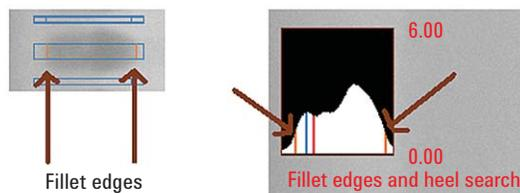

Figure 7. Ideal setup
2. Verify the fillet edge locations are finding the most prominent sloped region near the beginning and the end of the joint. Be cautious of locating too far up the joint region on joints that are only slightly sloped. See example of ideal setup in Figure 7.